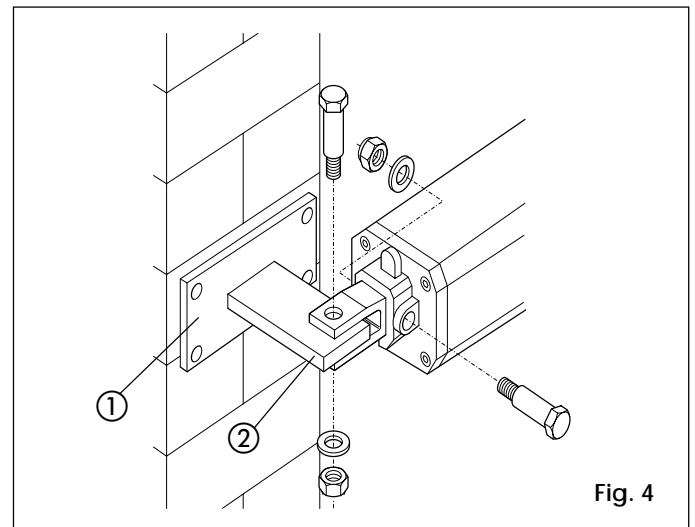

Fig. 4
In the case of brick/concrete gate posts, flush-mount a wall plate (2, Fig. 4), and weld the bracket to the plate (Fig. 4).
- 2) Fix the operator to the rear bracket by means of the screws supplied (Fig. 4).